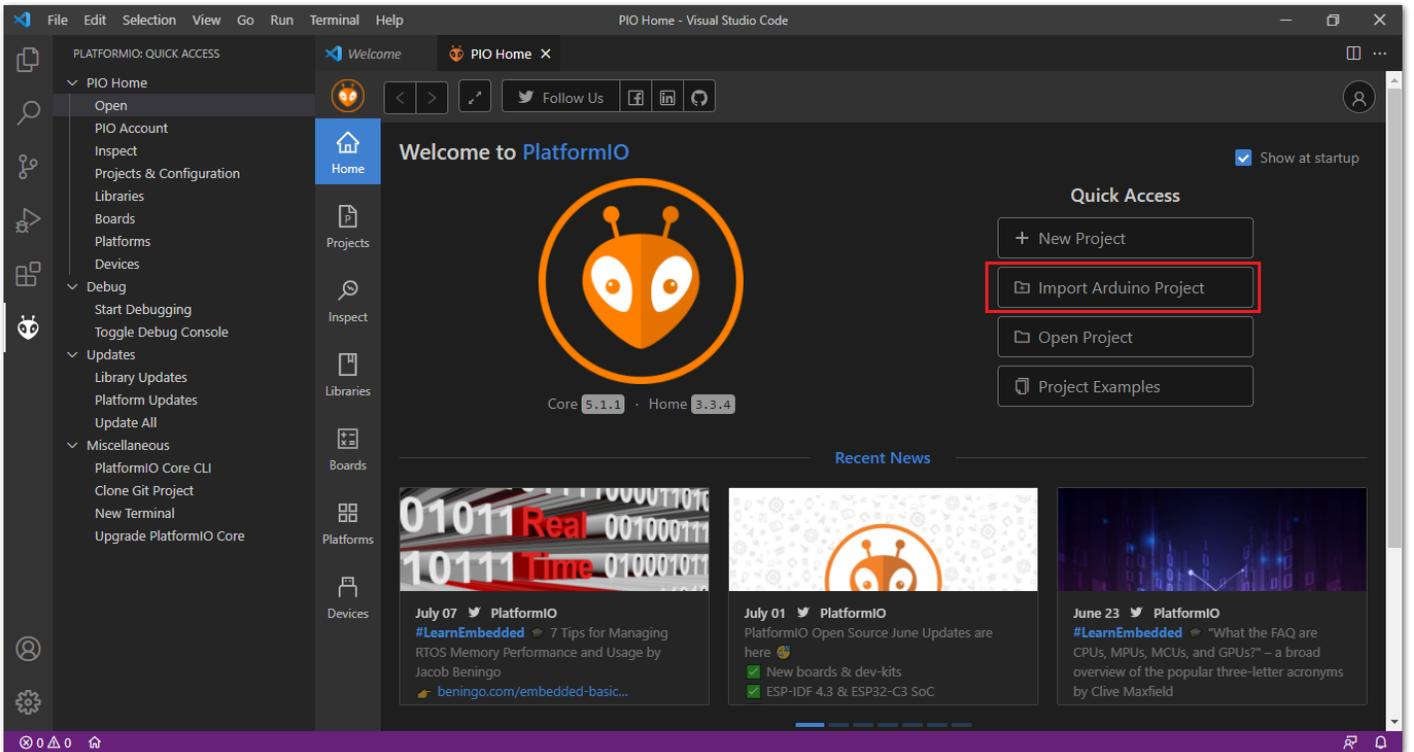

Figure 18: Import RAK12004 Arduino Project
- Open **PlatformIO PIO Home** and select **Import Arduino Project**, as shown in **Figure 18**.